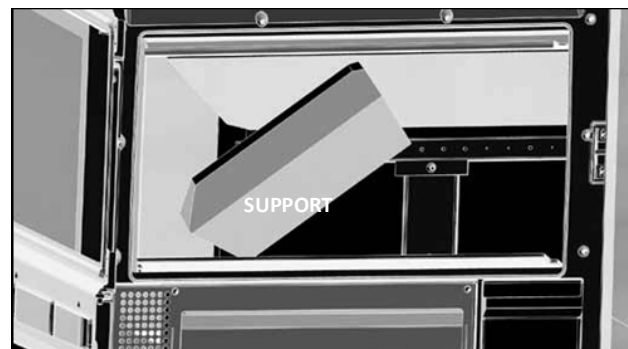

FIG. 8
**Nature 70/80 Model:** slide the support towards the centre as described in the figure; let one side of the deflector drop and remove it from the fireplace. (Fig. 8/9).